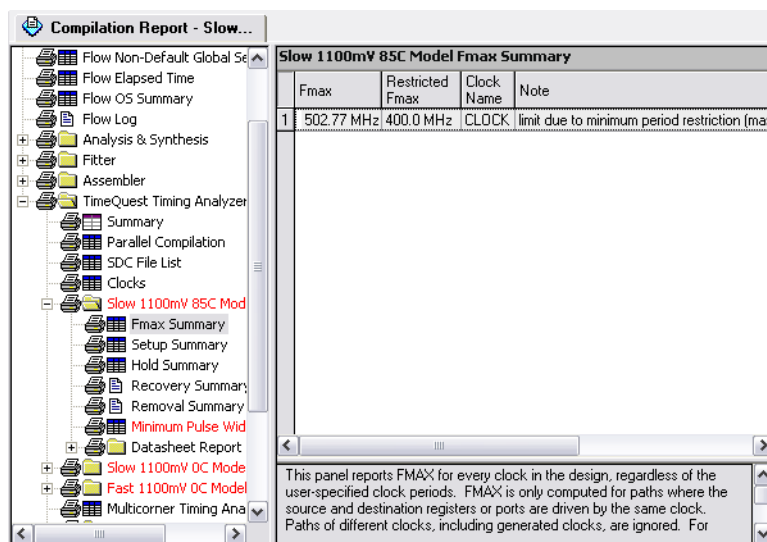

Figure 37: New timing results.
- The new timing results are shown in Figure 37. The new  $f_{max}$  is 502.77 MHz, which meets the specified requirement.